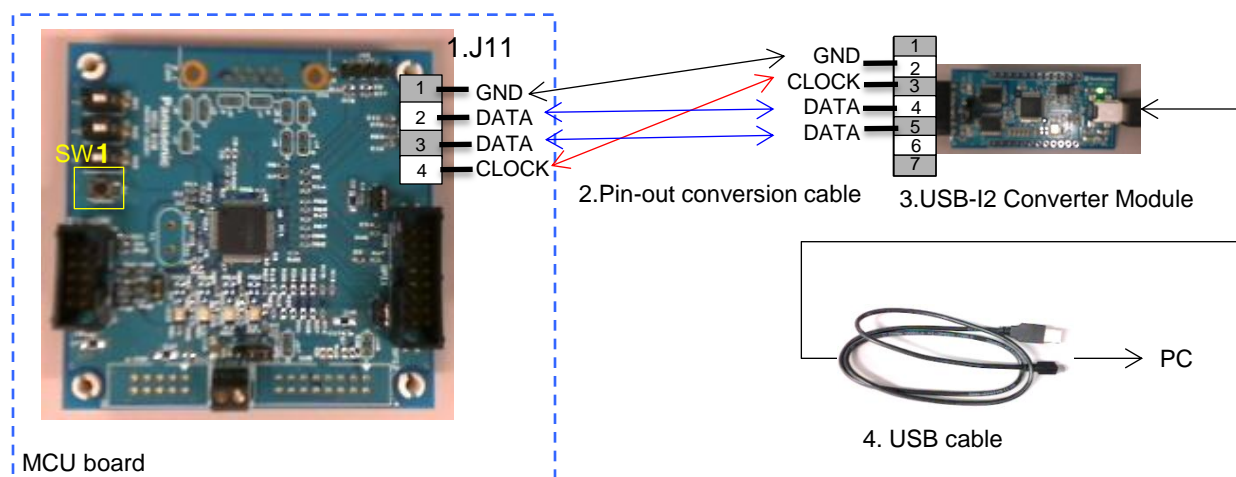

Figure 3.1 Preparations of MCU board
2. Connect AFE to MCU board, and Connect PC to I2C of MCU board as shown in Figure3.1(1-4)